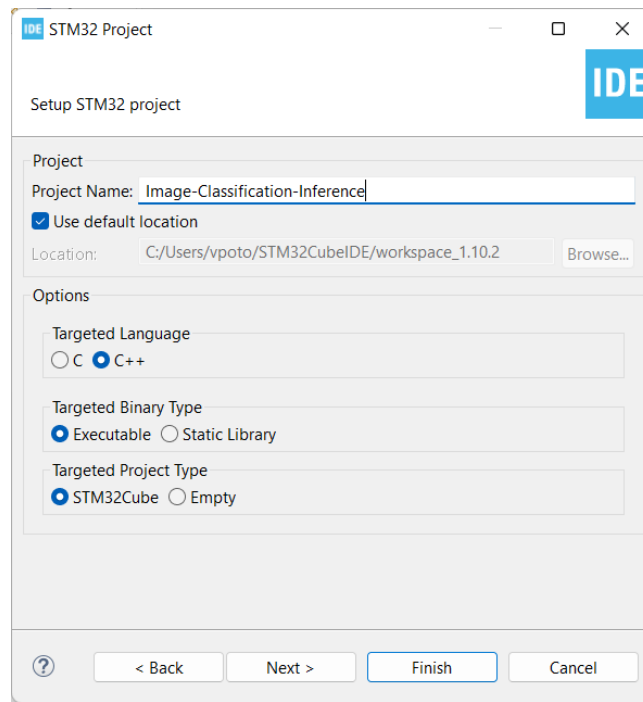
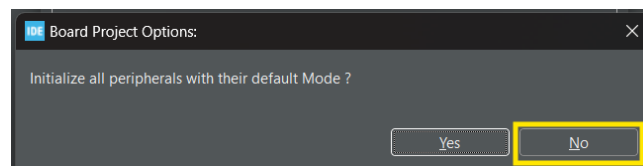

Figure 3: Creating a new C++ STM32 CUBE IDE project from scratch for image classification on the MCU.
Figure 4: Peripheral prompt window.
1. Create a new project with STM32 CUBE IDE . Make sure to give the project an appropriate name. Furthermore, you have to configure the project as a C++ project as shown in Figure 3. Select `No` when prompted to initialize the peripherals in default mode, as shown in Figure 4.